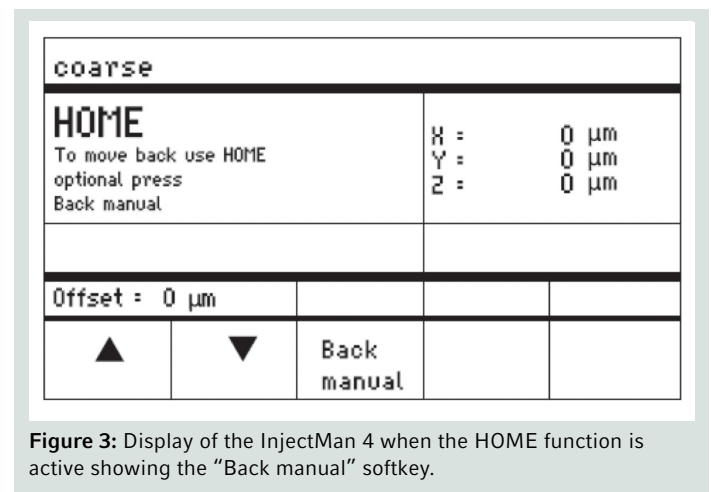

Figure 3: Display of the InjectMan 4 when the HOME function is active showing the "Back manual" softkey.
- C.** Switch on the InjectMan 4 and make sure that the "Adherent Cell injection" application is selected. If the FemtoJet 4i is properly connected and ready a note "Injector ready" will appear on the InjectMan 4 display. Press the "home" key on the InjectMan 4 keypad to move the motors to the maximum up and out position. Press the "Back manual" softkey to clear the HOME function in preparation for mounting a new capillary (see Figure 3).